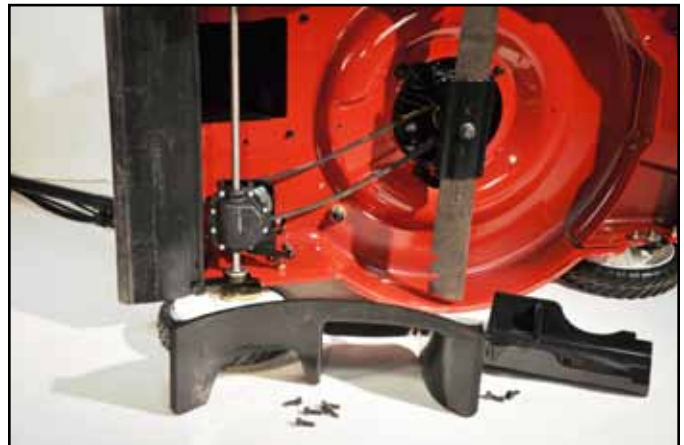

Fig. 139
4. Tip mower on its side, air filter up. DO NOT tip the mower with the air filter side down. Remove the rear baffle and belt cover (Fig. 139).